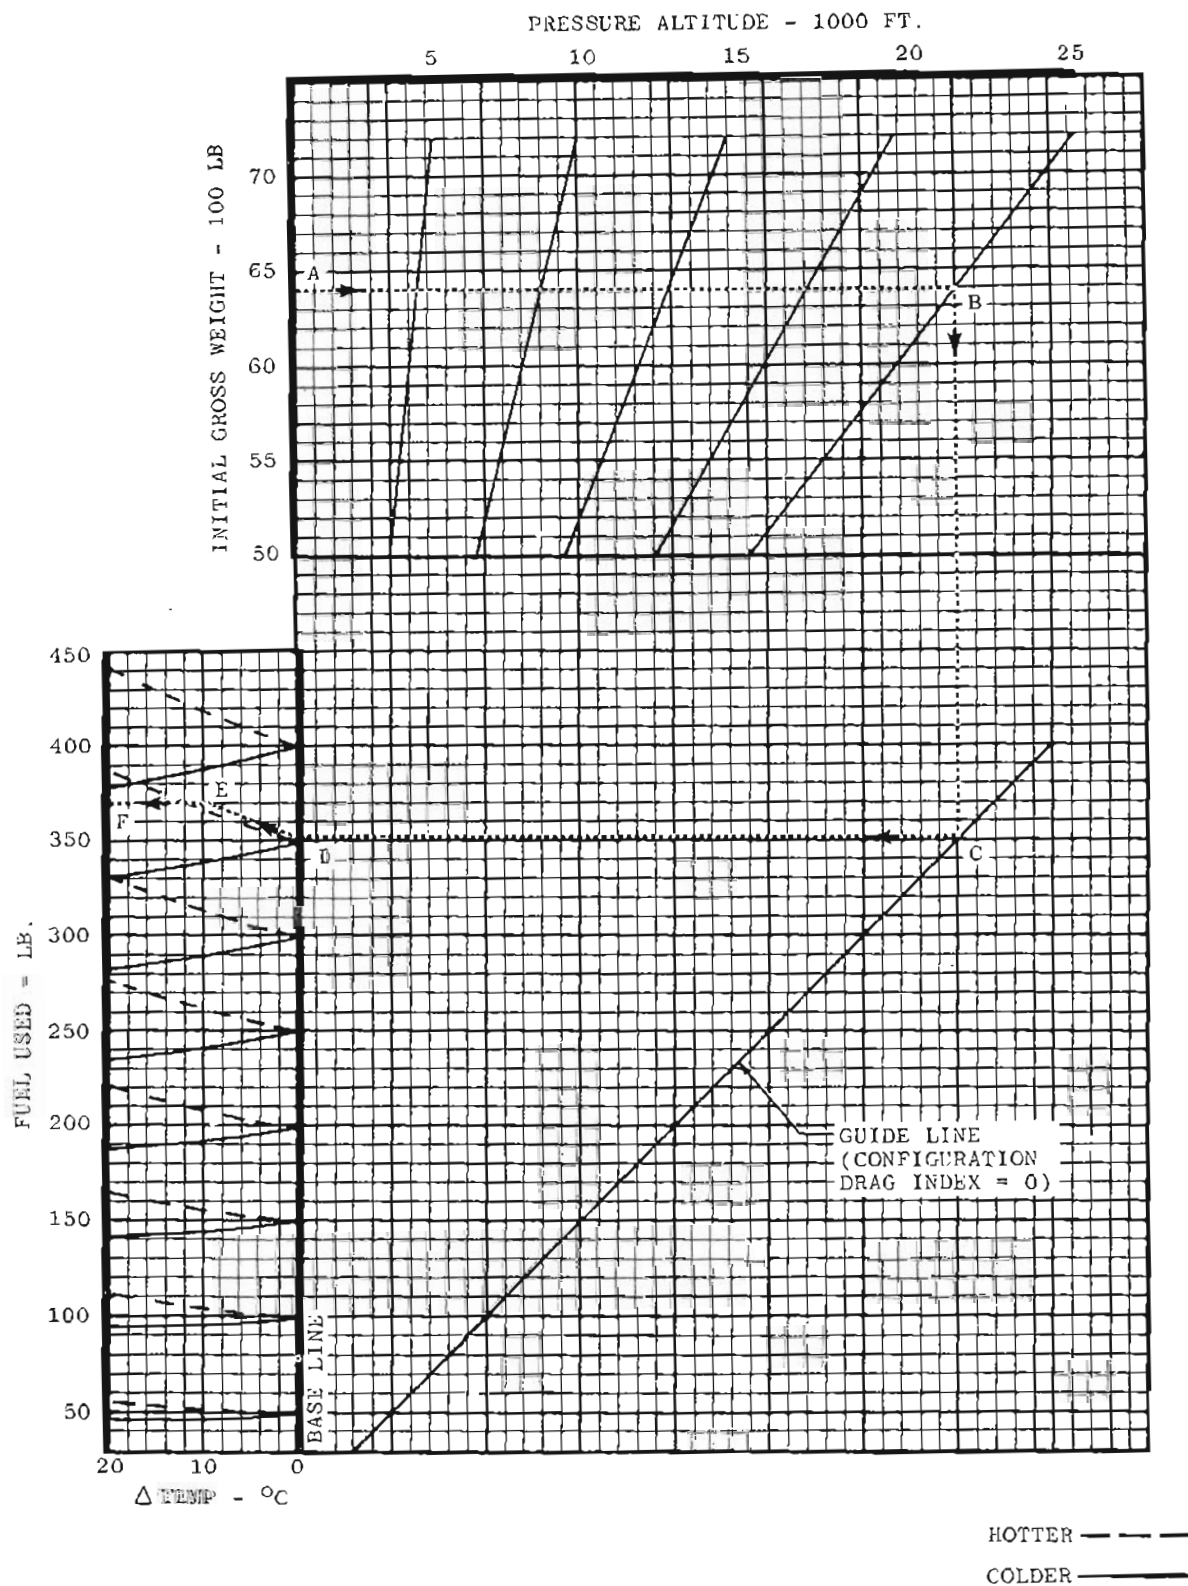

Figure A3-2
**SOLUTION:** (See figures A3-2 and A3-3)
1. Enter figure A3-2:
3. Re-enter figures A3-2 and A3-3 and repeat steps (A) through (P) using: